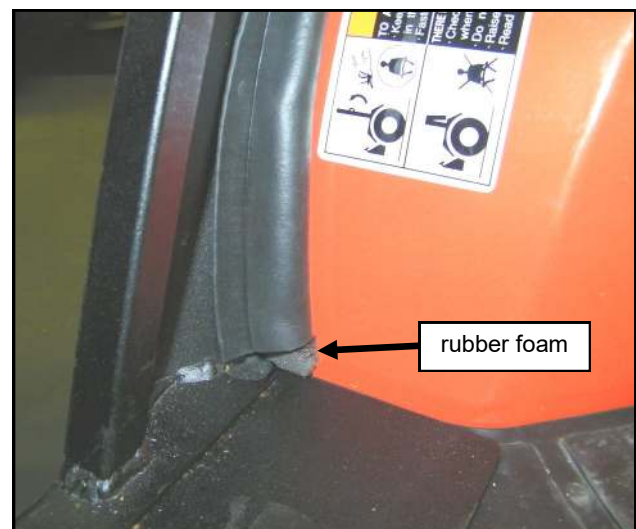

Fig. 23.1 (rubber foam installed on right fender)
23.1 Cut the supplied 6" long strip of rubber foam in half. Place (1) piece of the rubber foam between the 1" Round Bulb and floorboard per fig. 23.1, on both the left and right fenders and trim in place.